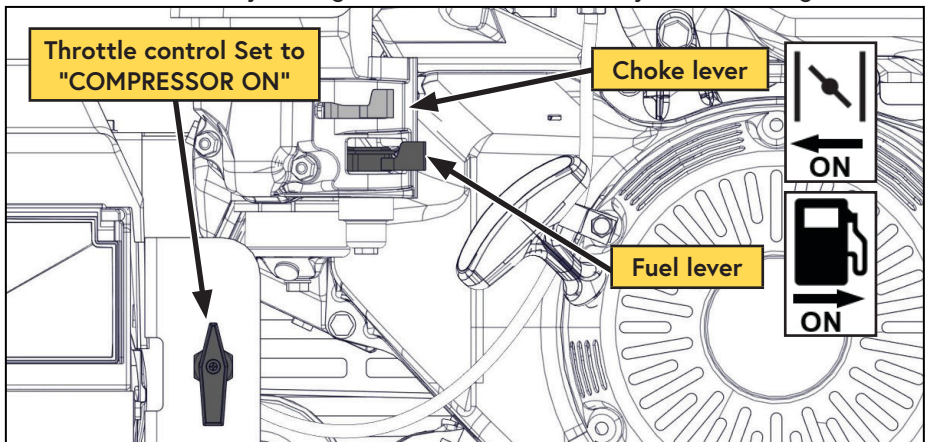

Figure 15 — Fuel and choke levers
- 3) Close the choke by moving the choke lever all the way to the left (Figure 15).
- 4) Turn on the fuel by moving the fuel shut off lever all the way to the right (Figure 15).